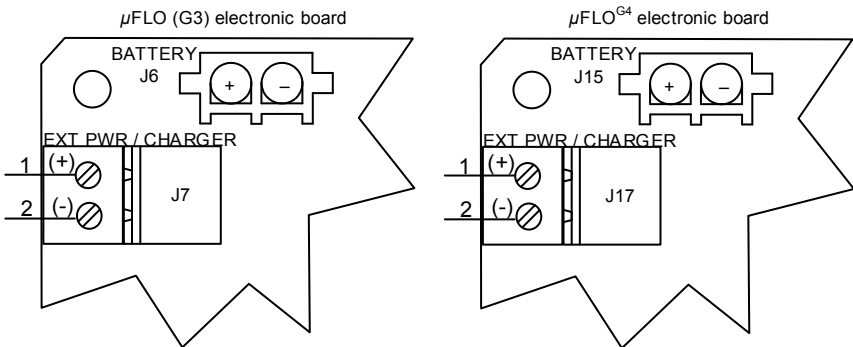

Figure 1: μ FLO^{G5} electronic board power connections
1. Disconnect the external power / charger connector (Figure 1).